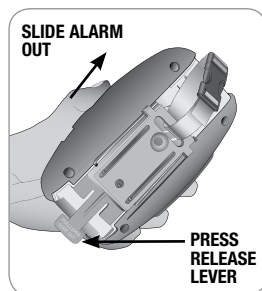

Fig. 43
4. To remove alarm, gently push release lever IN while sliding alarm up and out (Fig. 43).